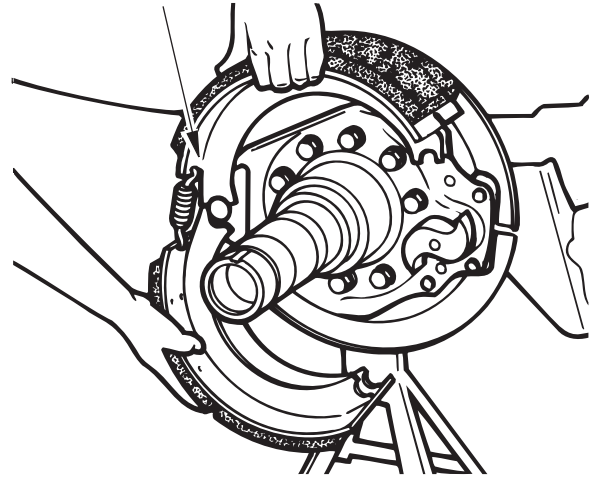

Figure 10
4. Position upper and lower shoes around anchor pin. Refer to Figure 10.